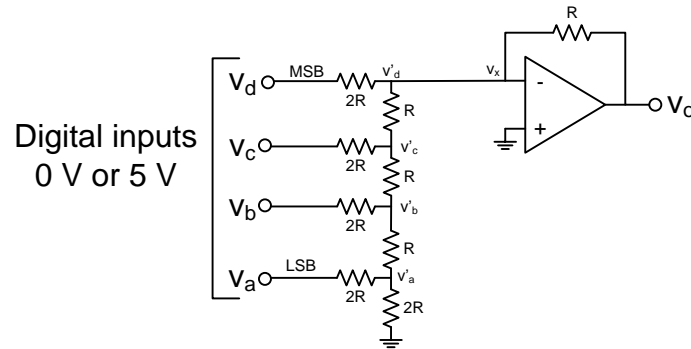

Figure 3: DA converter using ladder network.
- (5p) (f) A ladder DA converter is shown in Figure 3. What is the output voltage of this DA converter when the binary input 0100 is applied to it?